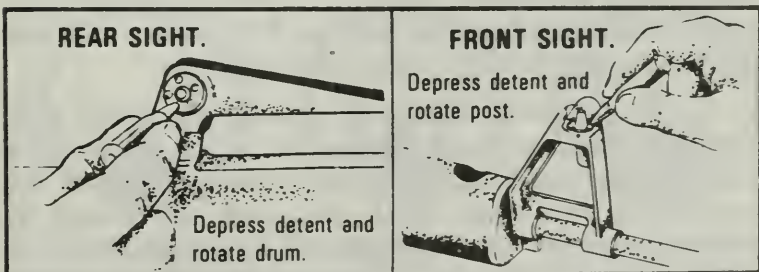

Figure 103. Rear sight detent and front sight detent.
3. Adjust sights (Figure 103).